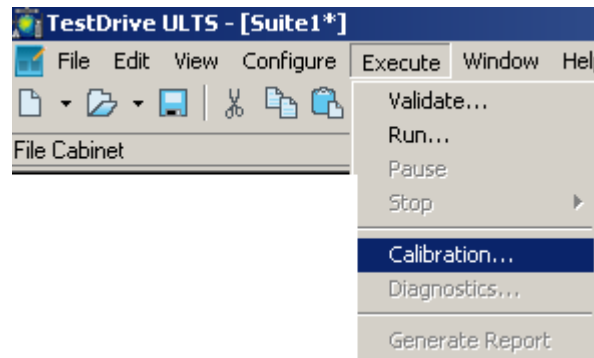

Figure 4-6: Initiating the Location Based Calibration
1. Select **Execute>Calibration** to launch the TestDrive ULTS Calibration Wizard, as shown in Figure 4-6.